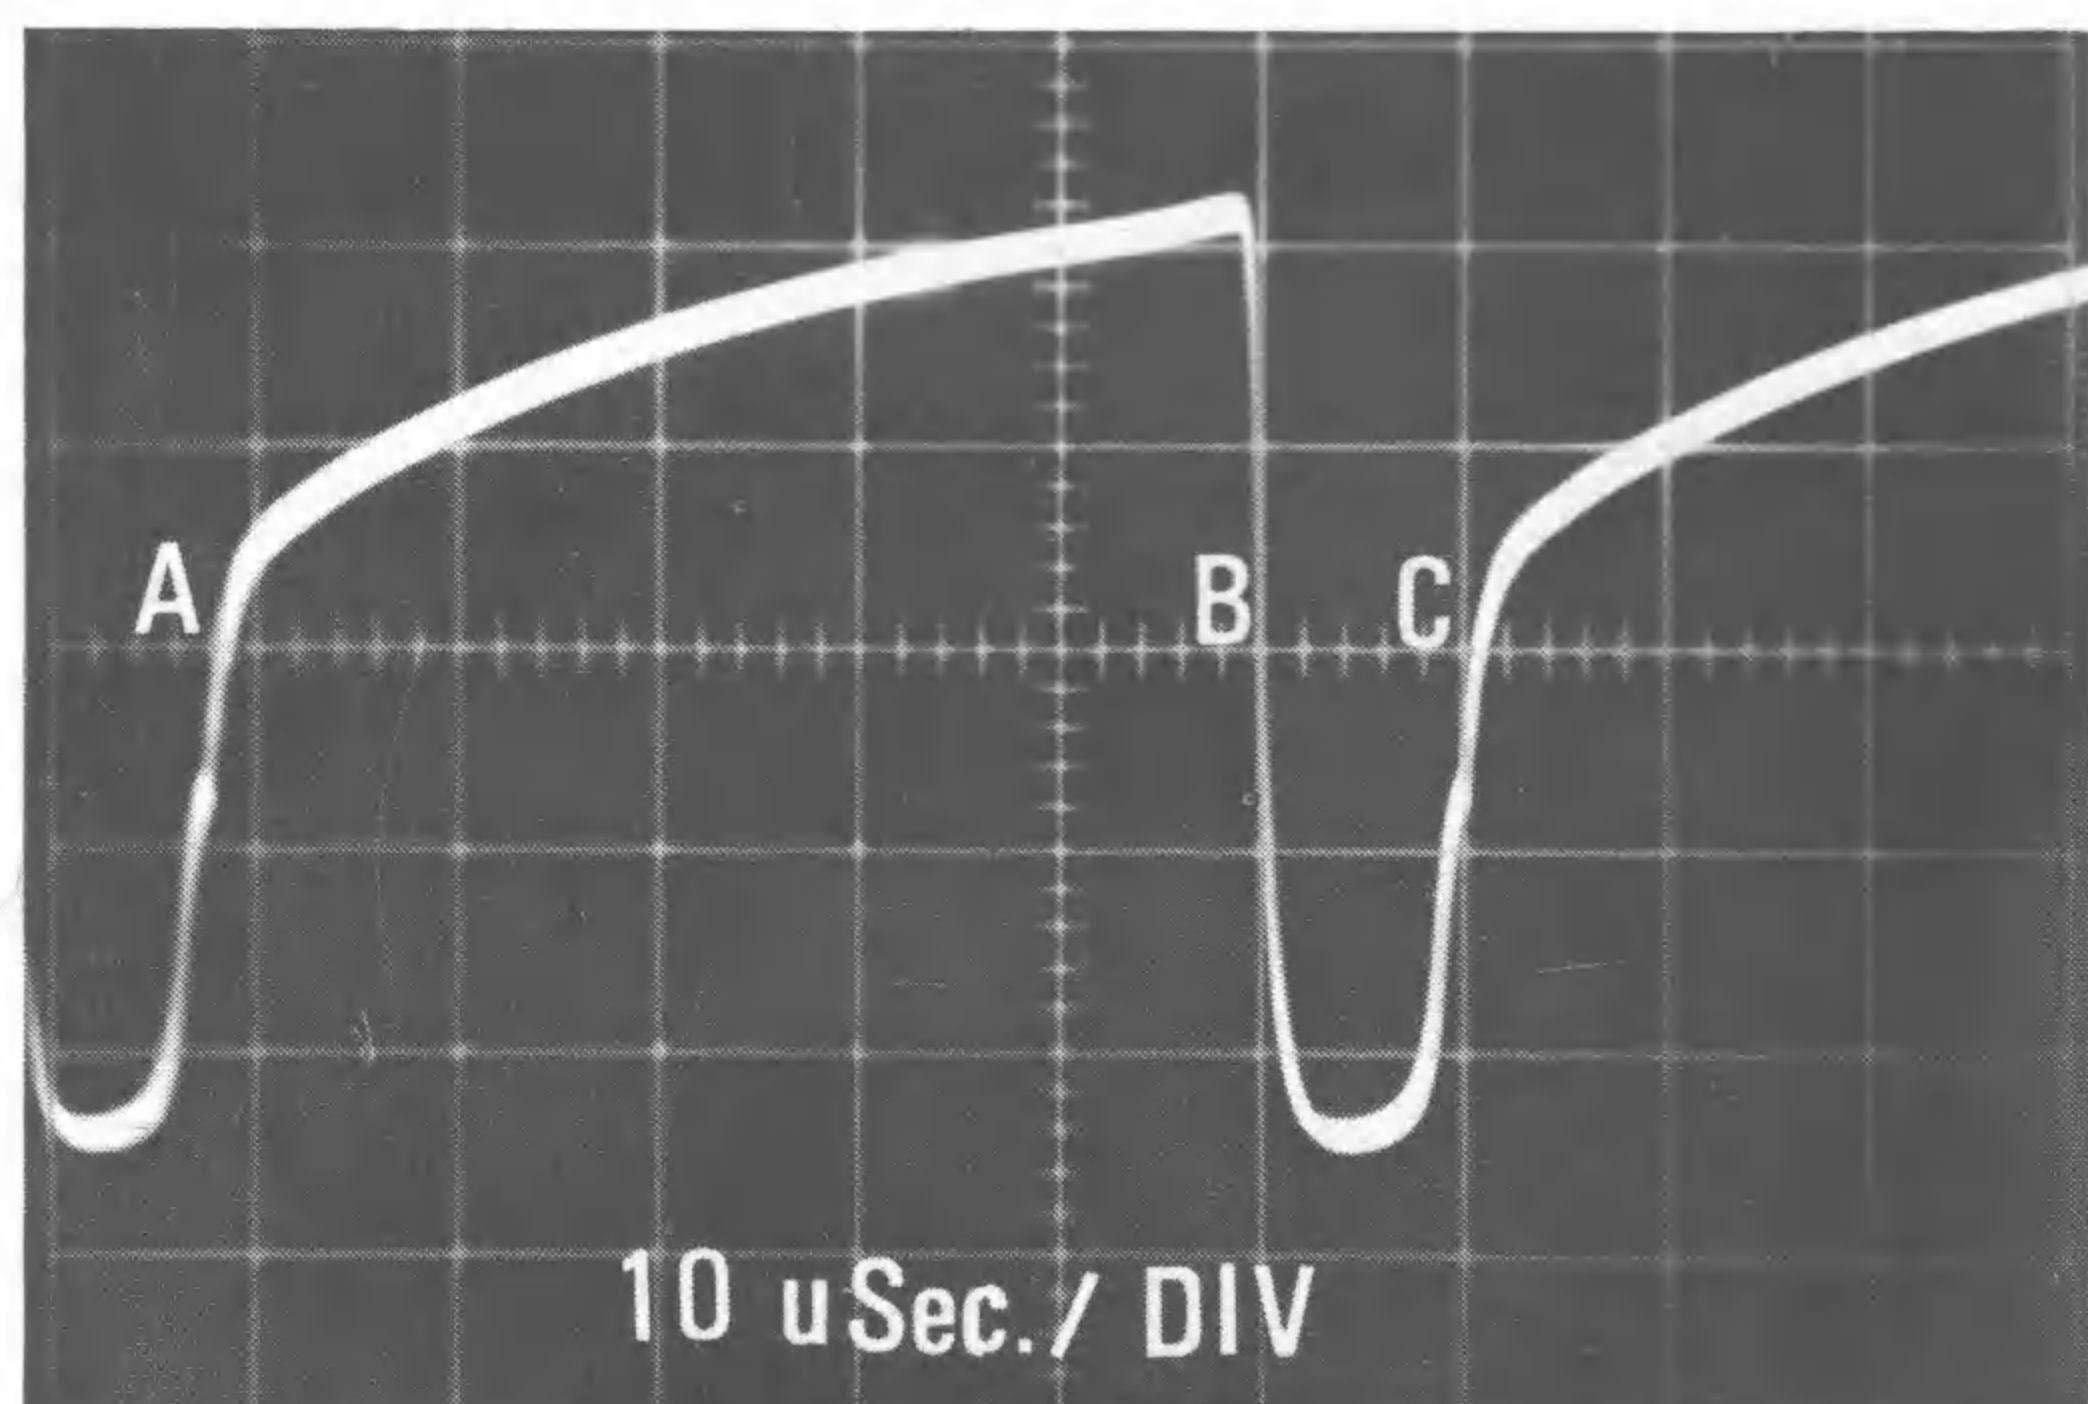

Fig. 4. Time measurement with PS29
3. Multiply the distance measured by the setting of the VARISPEED control. Fig. 4 shows the waveform at the grid of the horizontal output tube in a television receiver. The width of the negative going pulse measured between points B and C is 1.1 divisions. The setting of the VARISPEED switch is 10uSec/Div, so this pulse is 11uSec wide. The horizontal distance for one complete cycle of the drive signal, as measured between points A and C is 6.3 divisions, so one complete cycle is 63uSec long.
The time for one cycle in Fig. 4 was 63uSec., or .000063 seconds. 1 divided by .000063 equals 15,850Hz, or very close to the horizontal frequency of 15,750Hz.